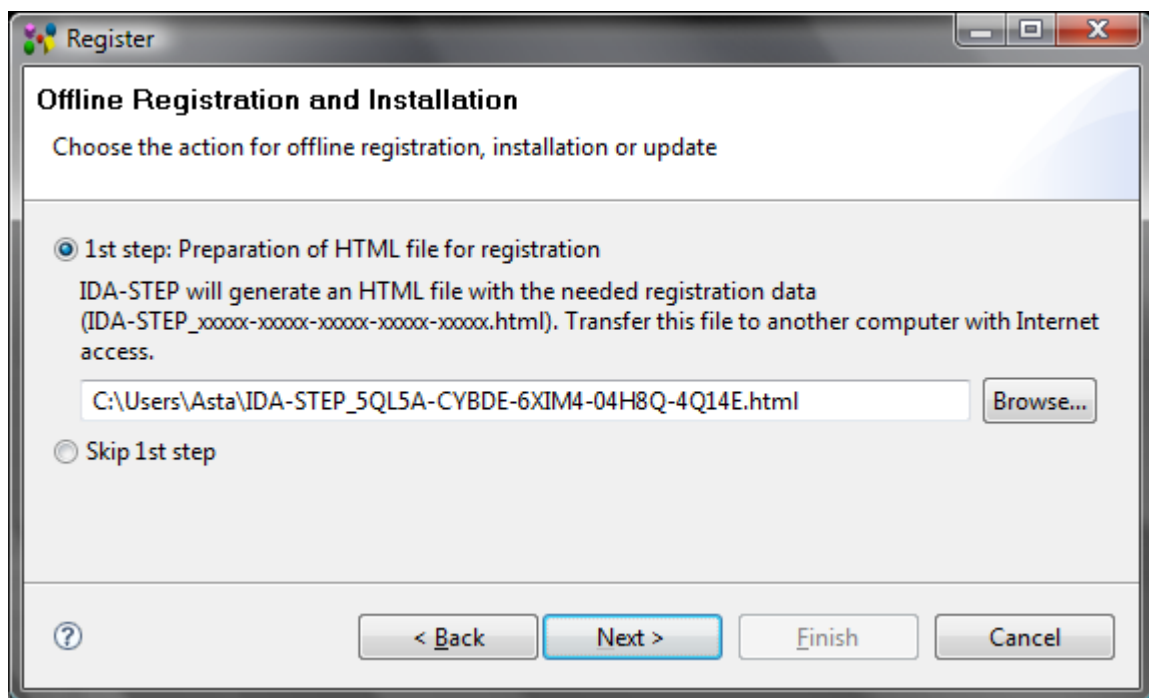

Figure 8. Offline Registration and Installation page (displayed license here: 5QL5A-CYBDE-6XIM4-04H8Q-4Q14E)
- Press **Next** button. The **Offline Registration and Installation** page appears on the screen to choose the action for offline registration, installation or update (see Figure 8):